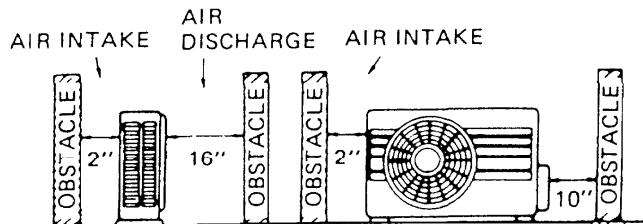

Fig. 4
• allow enough room around unit for air intake/exhaust and possible maintenance. Fig. 4